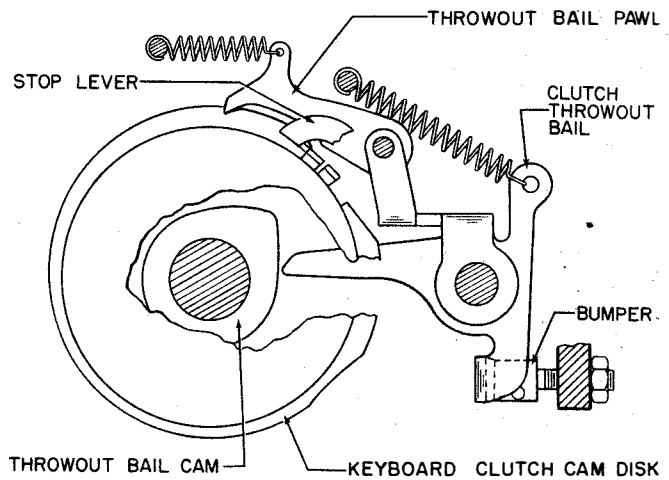

Figure 2-12. Keyboard Clutch Throwout Mechanism
code bar bail returns to its normal position, it releases the operated code lever and its keylever. As the cam-clutch nears the end of its revolution, the throwout bail pawl drops into a notch on the cam disk. Next, the clutch throwout bail drops off the high point of its cam. Powered by a spring, it drives its pawl and the cam disk until the clutch shoe lever is stopped by the clutch stop lever and the clutch shoes are disengaged from the drum (figure 2-12). For detailed information on the operation of the clutch shoes, see paragraph 4.b.(3) of this section.